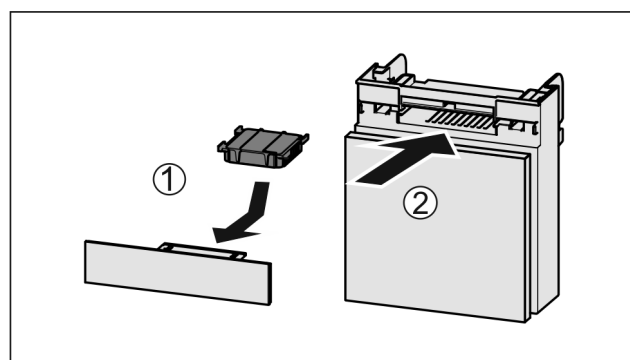

Fig. 104
- Insert the carbon filter as shown in the diagram Fig. 104 (1).
- Push the compartment in Fig. 104 (2).